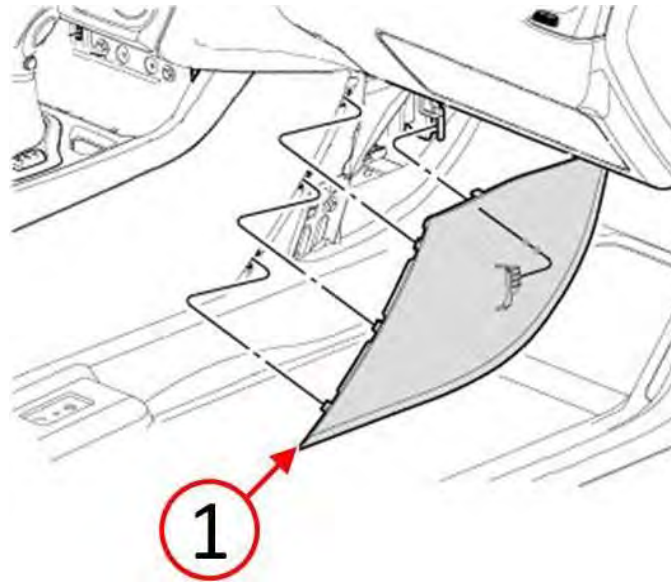

Fig. 15 Install Right Side Floor Console Panel
18. Align and position the right side floor console panel (1) then hand tap to engage the retaining tabs securing the panel to the console (Fig. 15).